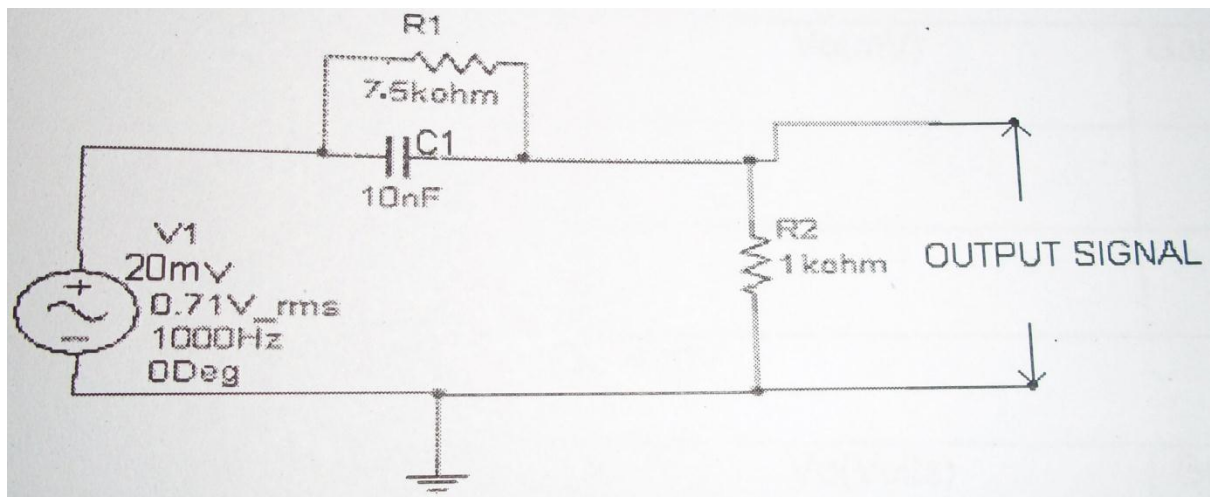

Fig: 1. Pre-emphasis circuit
1. Connect the circuit as per circuit diagram as shown in Fig.1.